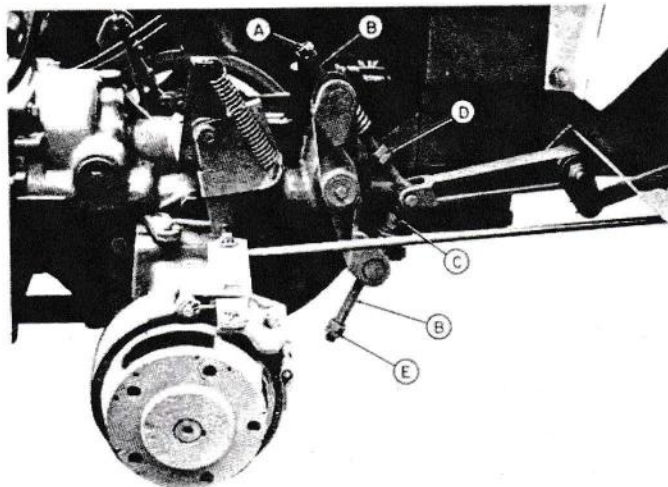

Figure 68
Forward Adjustment — (Over center) Move the jam nuts (A, Figure 68) closer to the clutch lever for a more sensitive overcenter adjustment or closer to the end of the clutch rod (B) for a less sensitive overcenter ad-
justment. Adjust the jam nuts (C) (Figure 68) so when the lever is in the forward position, there is approximately .010 inch gap between the coils of the spring. NOTE: When properly adjusted clutch will return to neutral with the slightest pull.
Reverse Adjustment — Move the jam nuts (E, Figure 68) closer to the clutch lever for a more positive adjustment or closer to the end of the clutch rod (B) for a less positive adjustment. Adjust the jam nuts (D, Figure 68) so when the lever is in the reverse position, there is approximately .010 inch gap between the coils of the spring.